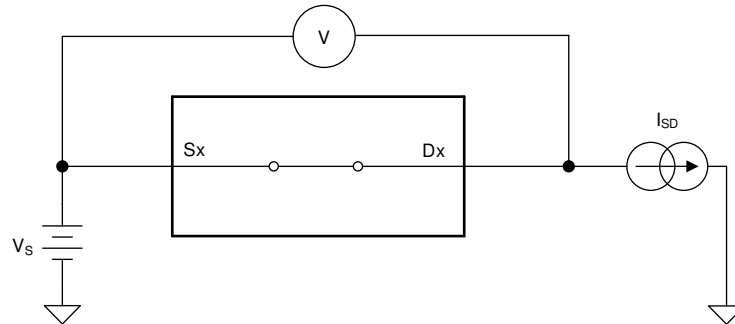

Figure 27. On-Resistance Measurement Setup
The on-resistance of a device is the ohmic resistance between the source (Sx) and drain (Dx) pins of the device. The on-resistance varies with input voltage and supply voltage. The symbol R_{ON} is used to denote on-resistance. The measurement setup used to measure R_{ON} is shown in Figure 27. Voltage (V) and current (I_{SD}) are measured using this setup, and R_{ON} is computed as shown below with $R_{ON} = V / I_{SD}$: